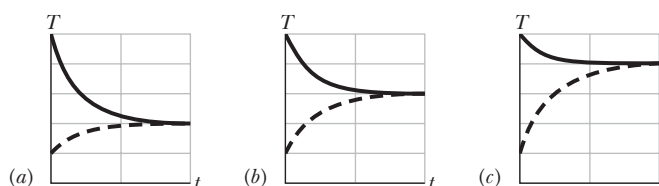

Figure 18-29 Question 11.
**11** A hot object is dropped into a thermally insulated container of water, and the object and water are then allowed to come to thermal equilibrium. The experiment is repeated twice, with different hot objects. All three objects have the same mass and initial temperature, and the mass and initial temperature of the water are the same in the three experiments. For each of the experiments, Fig. 18-29 gives graphs of the temperatures  $T$  of the object and the water versus time  $t$ . Rank the graphs according to the specific heats of the objects, greatest first.